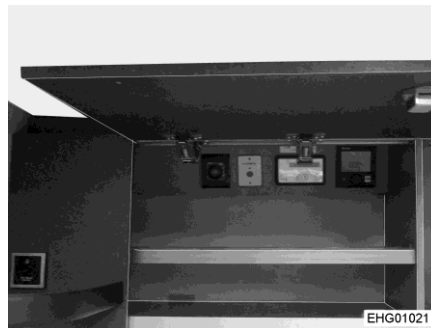

Fig. 133 Fuse holder in right-hand drive vehicles (Ford)
- Replace the fuse on the fuse holder (Fig. 133).